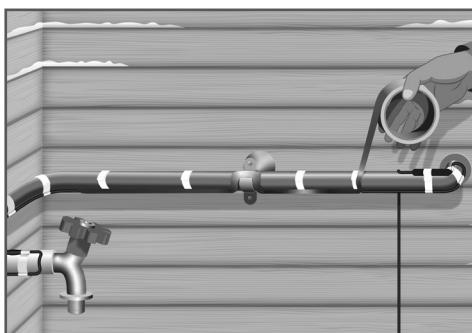

Fig. 4A
- Apply aluminum tape on top of the heating cable along the entire length of the cable where possible, **Fig. 4A**.